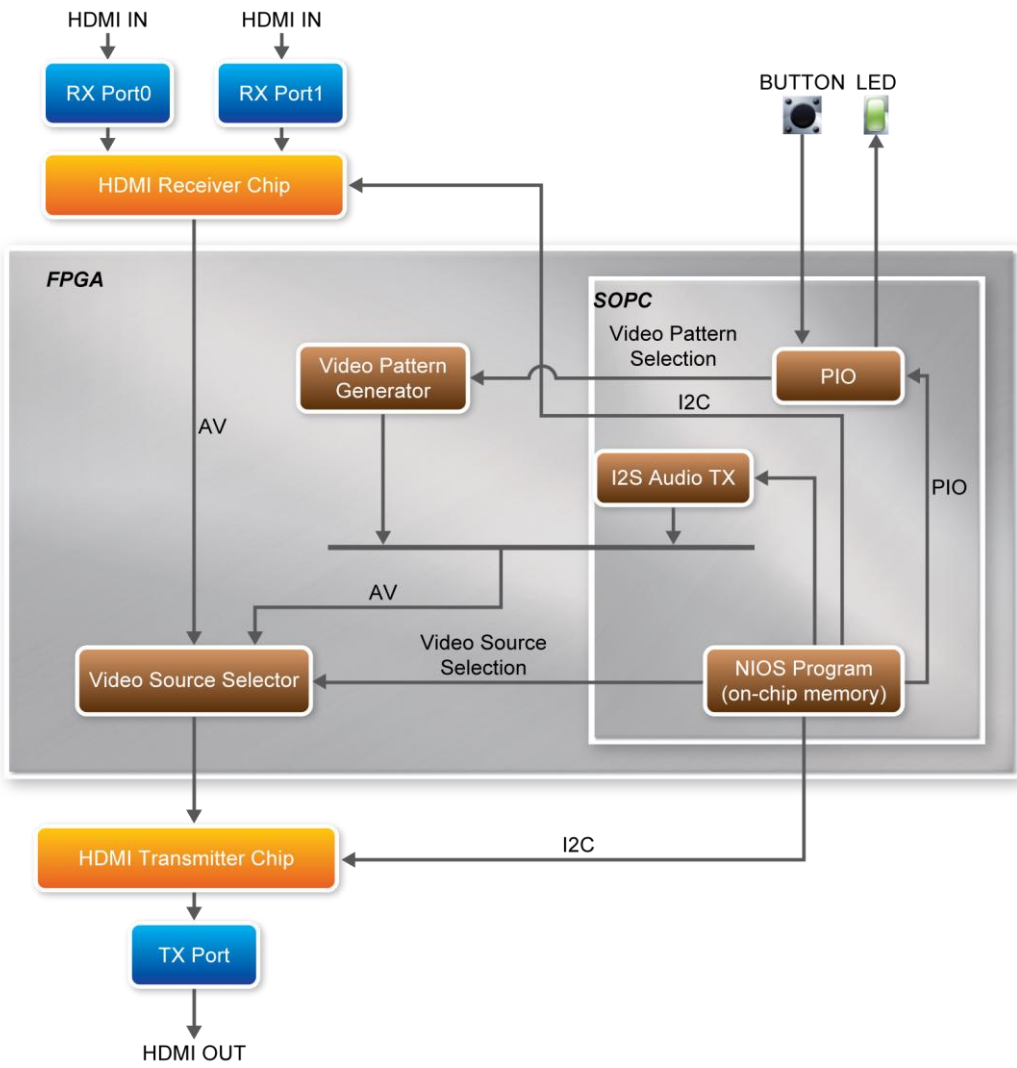

Figure 4-1 System Function Block Diagram
**Figure 4-1** shows the system function block diagram of this demonstration. In the design, SOPC is included because Nios II processor is used to control receiver through I2C interface. The Nios II program is designed to run on the on-chip memory.